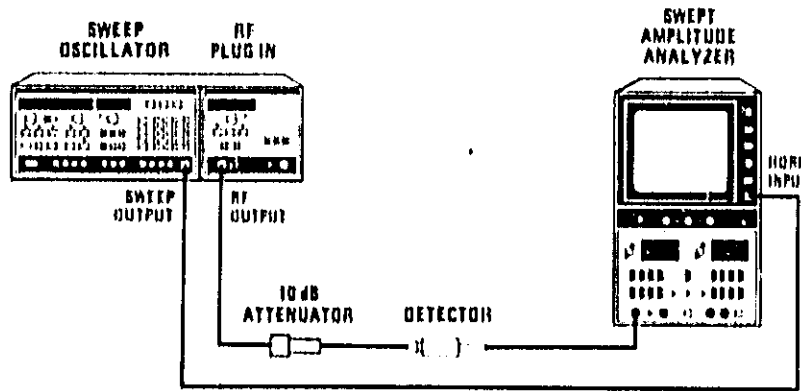

Figure 5-31. Internal Leveling Adjustment Test Setup
1. Connect equipment as shown in Figure 5-31 with the 8755C monitoring the RF output through the 10 dB attenuator. On the 8350A, press INSTR PRESET \square MOD . Allow the equipment to warm up for 1 hour.